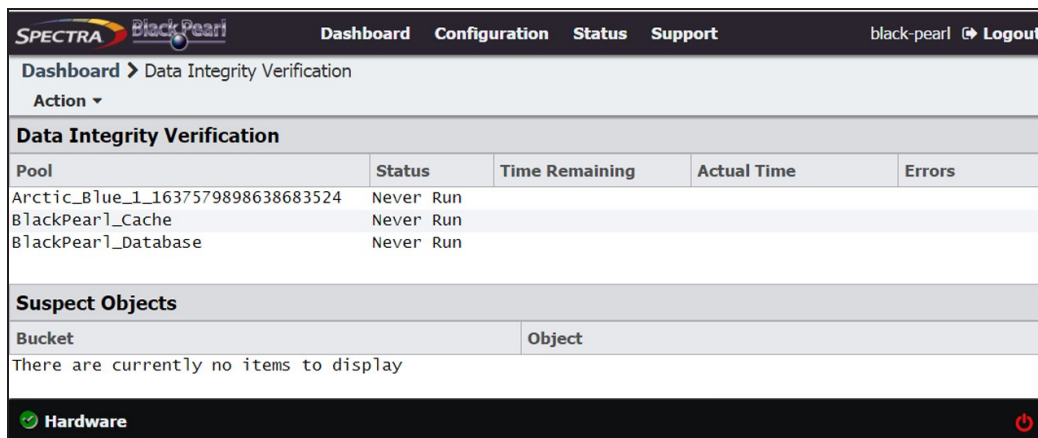

Figure 264 The Data Integrity Verification screen.
1. From the menu bar, select **Support > Tools > Data Integrity Verification**. The Data Integrity Verification screen displays (see Figure 264 on page 355).